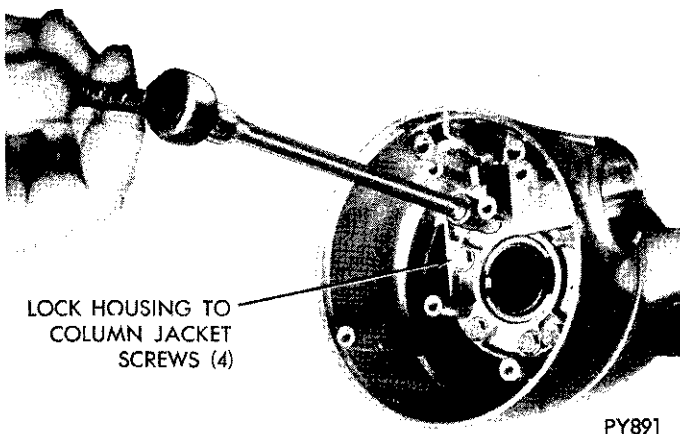

Fig. 13—Lock Housing to Column Jacket, Retaining Screws
- (6) Remove four lock housing to column jacket hex head retaining screws and remove housing from jacket (Fig. 13).
nately in steps to insure proper seating of the housing on the jacket. Tighten to 80 inch-pounds (Fig. 13).